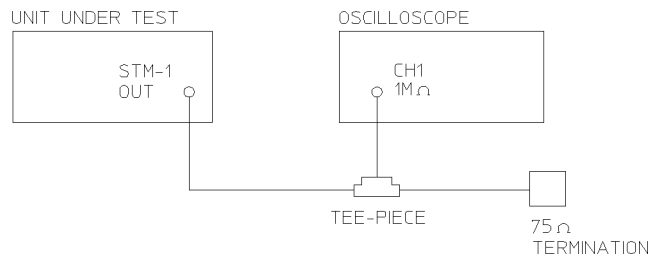

Figure 3-58
1. Connect up the equipment as shown in Figure 3-58 and Recall HP 37717C DEFAULT SETTINGS as shown on 3-2.